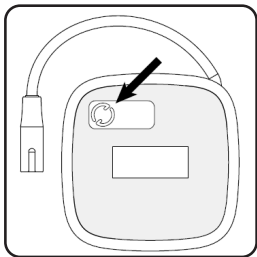

Figure 2: Activate the TS by pressing the button on the back of the stimulator
1. Press the button on the back of the TS (**Figure 2**). The green light next to the button will start to flash. The green light will flash for 90 seconds.
- If there is no flashing light when you press the button, try pressing the button again. Confirm you are pressing the button as shown in Figure 2. If there is no light after multiple attempts at pressing the button, do not use this TS. Activate a new TS. If the issue persists with a new TS, contact Axonics.